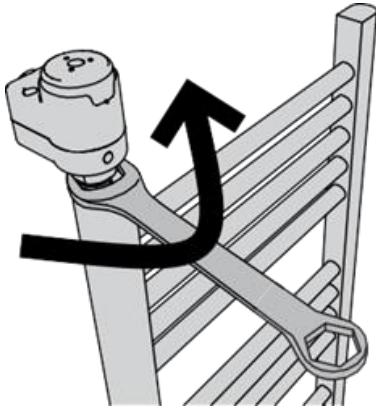

Fig. 14
3. Using a 27 mm spanner unscrew the ATLANTIS III, rotating it anticlockwise until the ATLANTIS III thread is completely off from towel rail $\frac{1}{2}$ "GAS female thread (Fig. 14).